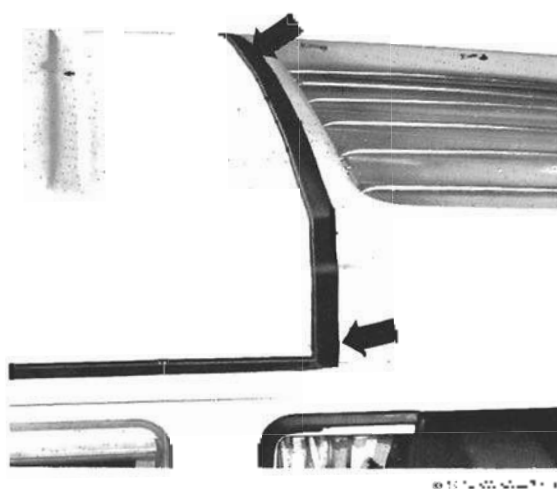

Fig. 7-33. Points where seal contact should be checked (arrows). Check on opposite side also.
5. Check the position of the rear rubber seal at the points indicated in Fig. 7-33. If necessary, reposition the hinges so that the seal makes proper contact all along the rear roof edge.